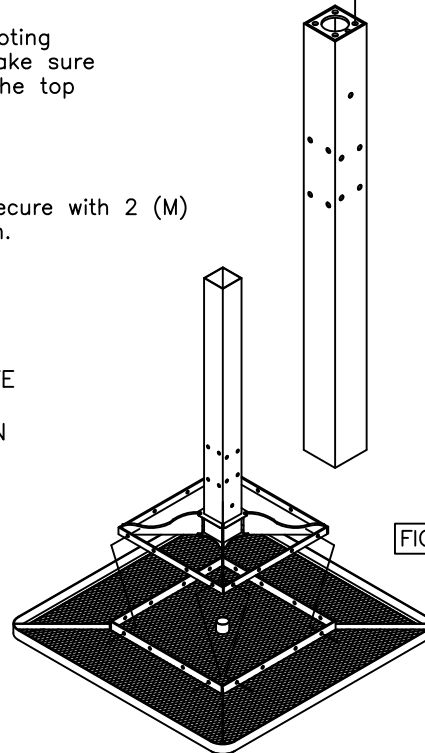

FIG. 2
Invert the top so it's upside down on a flat surface. Attach the (D1/C) assembly to the inside of the top's center square mounting frame, see FIG. 2. Use eight (F) and (K) using two (J) and one (N) per (F). Draw the fasteners to a snug fit with wrenches. Screw bolt covers (F1/F2) or (F3) together using two (M) machine screws and slide over inground post, refer to FIG. 4. Secure to top.